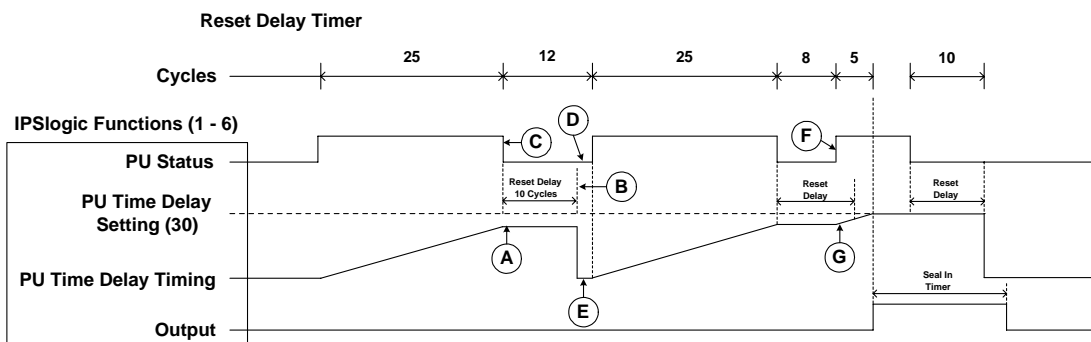

Figure 4-102 Reset Delay Timer Logic Diagram
The Reset Delay Timer logic is presented in Figure 4-102. The Reset Delay Timer feature allows the user to delay the reset of the PU Time Delay Timer and hold the accumulated timer value (A) for the duration of the Reset Time Delay time period (B). The Reset Delay Timer starts when the ISSLogic PU Status drops out (C).